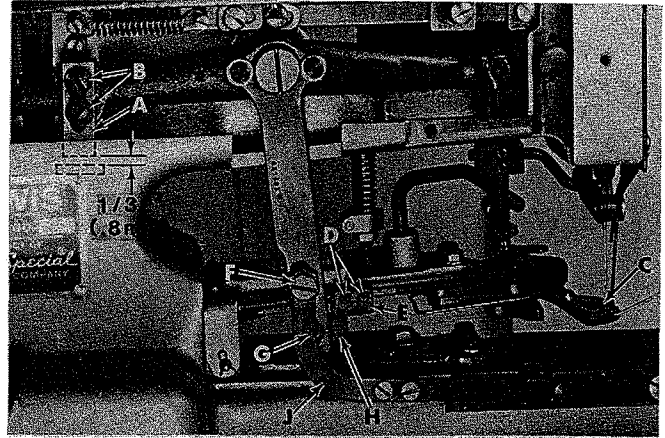

Fig. 35
Machine is in STOP POSITION and the clamp is raised. There should be 1/32 inch (0.8 mm) clearance from the bottom of the clamp lifting lever stop (A, Fig. 35) to the nipper bar bearing block. This can be checked by manually lifting the clamp lift lever and noting the travel until the stop contacts the bearing block.
Loosen the two screws (B, Fig. 35) securing the stop block and move the block up or down as needed. Tighten screws (B).
The button clamp jaws (C, Fig. 35) should start to open just before the clamp begins to lift. The clamp jaws should then open to release the button and return to the clamping position when the clamp is completely raised.
To open the jaws earlier, loosen screws (D, Fig. 35) and move the front tripping block (E) to the rear. Moving block to the front will cause jaws to open later. Tighten screws (D). To close the jaws sooner, remove screw (F) securing the knife drive link arm, then loosen screw (G) and move tripping block (H) down. Raising block (H) will open the jaws wider for a longer duration. When the desired condition is obtained, retighten screw (G) and replace screw (F) securing the knife drive link arm (J).
**NOTE:** To disengage the clamp opener reposition the tripping blocks (E and H, Fig. 35) so they do not come in contact.